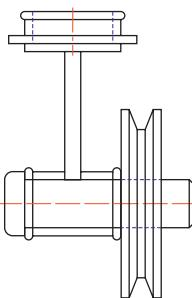

Fig. 10.19 Example – Xrefs
Example – External References (Fig. 10.19)
8. Now reopen the original drawing. The **external reference** within the drawing has changed in accordance with the alterations to the spindle drawing. **Fig. 10.19** shows the changes in the front view of the original drawing.